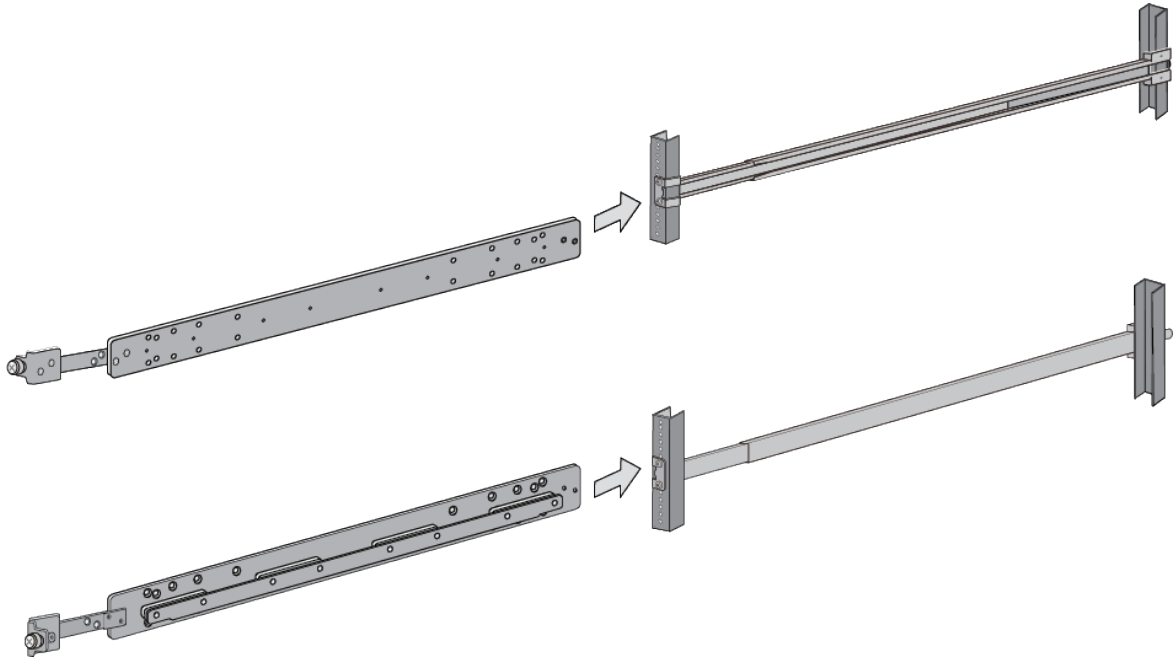

Figure 111. Testing the Inner Rails with the Extension Brackets
4. To test the lengths of the extension brackets, slide the inner rails into the outer rails in the equipment rack. Refer to Figure 111.